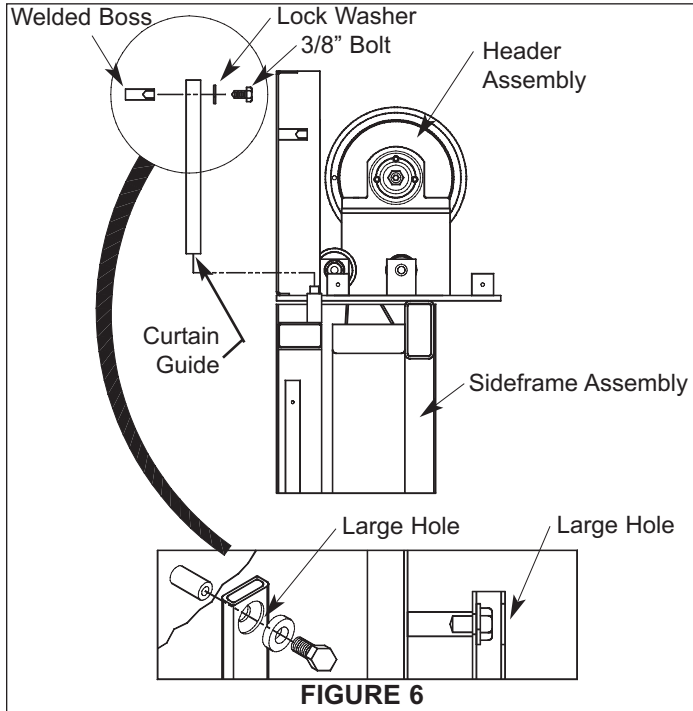

FIGURE 6
2. Install guide with the 3/8" x 5/8" bolt and lock washer onto welded boss on the back wall of the header assembly, **Figure 6**. Repeat for the opposite sideframe.